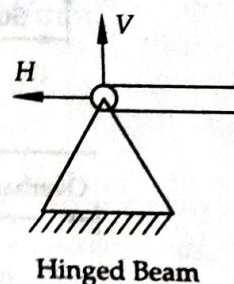

Fig. 38
3. Hinged Beam: In such a case, the end of a beam is hinged to the supported as shown in Fig. 38.